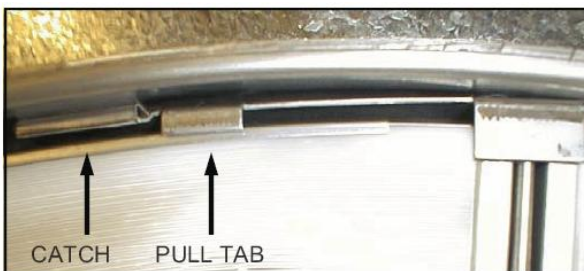

Figure 9 – Segment Retaining Brackets
5. Unlock and open the segment retaining brackets on both sides of the selected segment opening. See Figure 9.
10. Close and latch segment retaining brackets to the position shown in Figure 9. Make certain the retaining bracket is fully engaged under the catch.